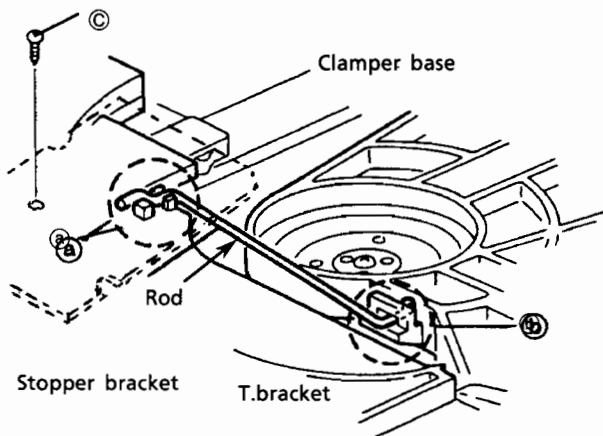

Fig. 27
2. Remove the screw ③ holding the stopper bracket.(See Fig.27) ---- (U.S.A only)
3. Remove the rod from both ends' hooks which are secured on T.Bracket ② and clamber base ①. [See Fig. 27)